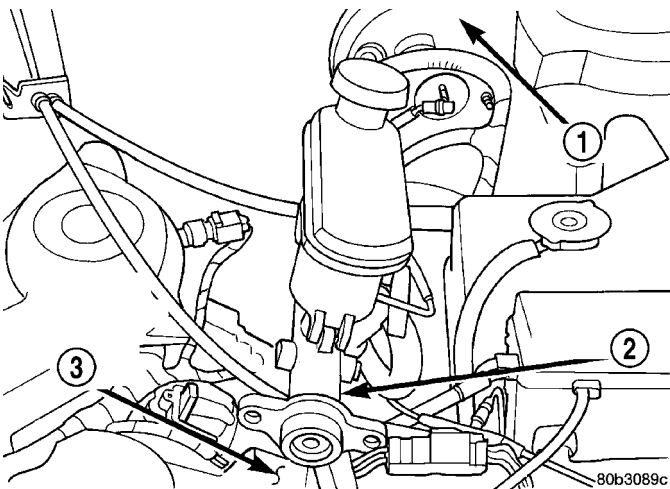

Fig. 79 Master Cylinder Positioning
(8) Carefully slide master cylinder off vacuum booster with brake lines attached, and position it backwards, on top of left engine cylinder head cover (Fig. 79).
NOTE: Before installing master cylinder, reposition under hood wiring harness above master cylinder mounting studs, in front of booster (Fig. 79).